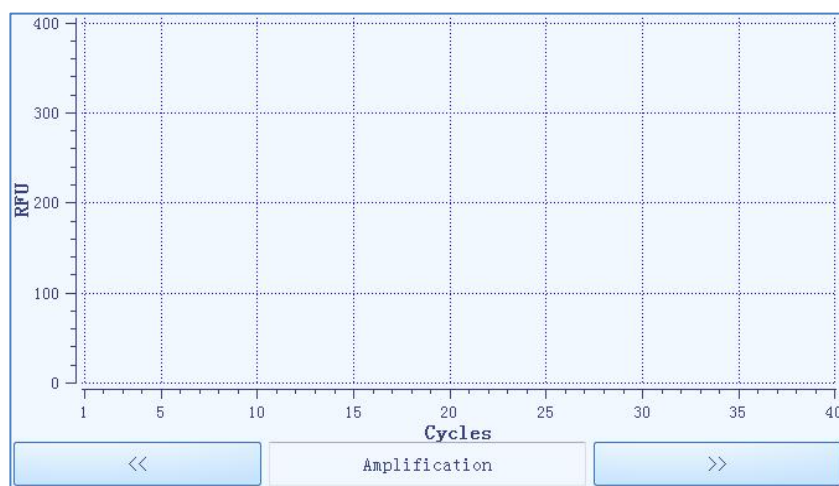

Figure E-5.1. Run Monitoring Diagram - Real-time Amplification Curve
- ▶ If user select the **Fluorescence** option in the run monitoring option bar, user can press  or  keys below the run monitoring diagram to choose the monitor content, which can be the real-time **Amplification** curve, **Melting** curve or fluorescence **Heat Map** of the current experiment, as shown in figure E-5.1.
- a. The run monitoring diagram will display the real-time **Amplification** curve of the current experiment by default, as shown in figure E-5.1.